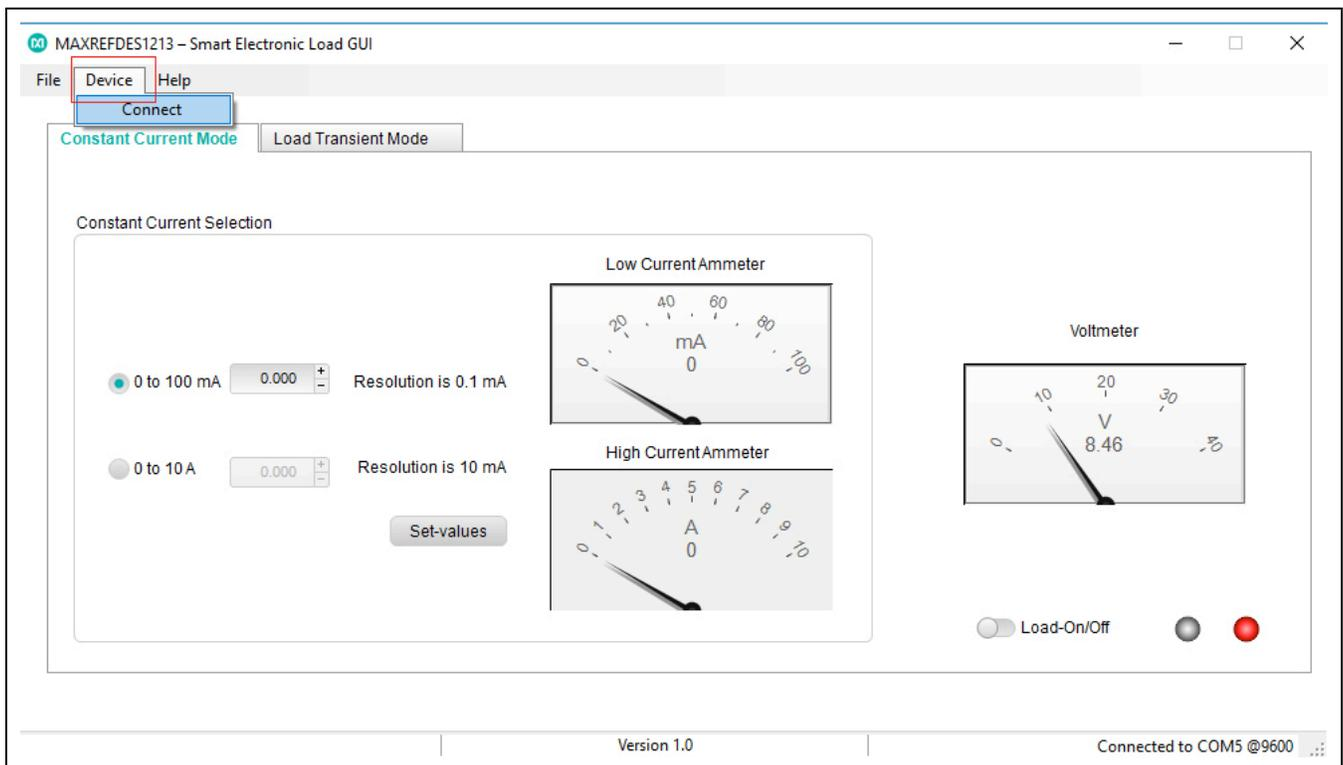
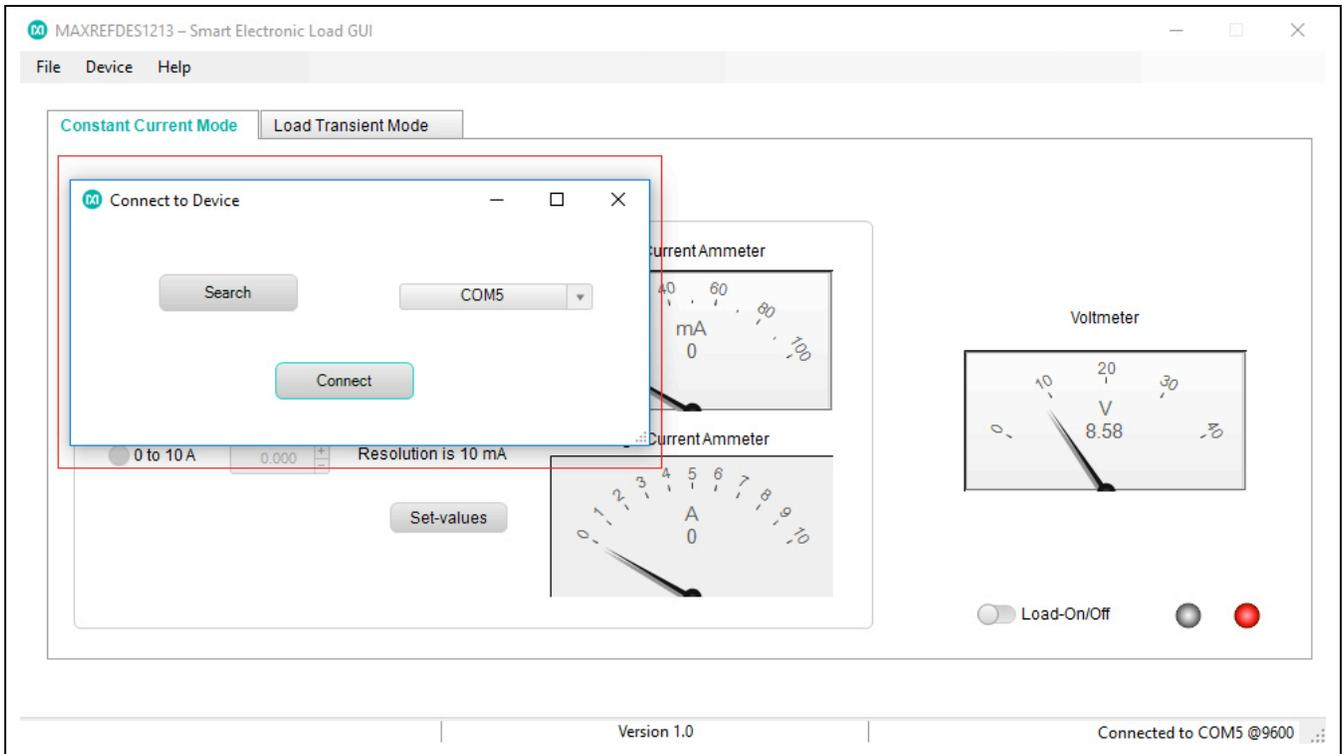

Figure 11. The Device menu option for connecting/reconnecting the GUI to the E-load.
Figure 12. The Connect to Device window appears when the Device menu option is clicked.
- 8) The **Device** menu option on the GUI shown in Figure 11 lets the user reconnect to the E-load, as seen in Figure 12.